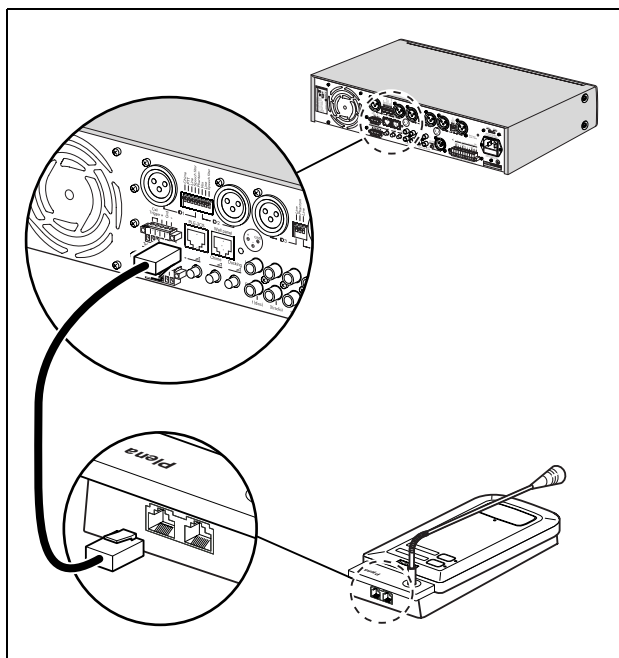

figure 3.1: Connecting the call station to the mixer or the mixer amplifier
- 1 Connect the Plena Two-zone Call Station to the PLE-series two-zone mixer or mixer amplifier using a Cat-5 Ethernet cable (see figure 3.1). Either one of the RJ-45 sockets can be used.